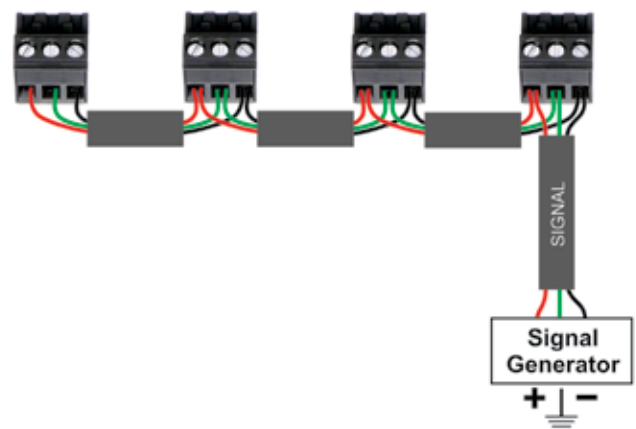

Figure B.2.24 – Barrier Block Connections for Parallel Inputs
- C. Use the jump wires included in the Parallel Wiring Kit and the Removable Barrier Block connectors that ship with each amplifier to create a paralleled input signal wire as shown in **Figure B.2.24**. Wire one input connector for each amplifier in your system.